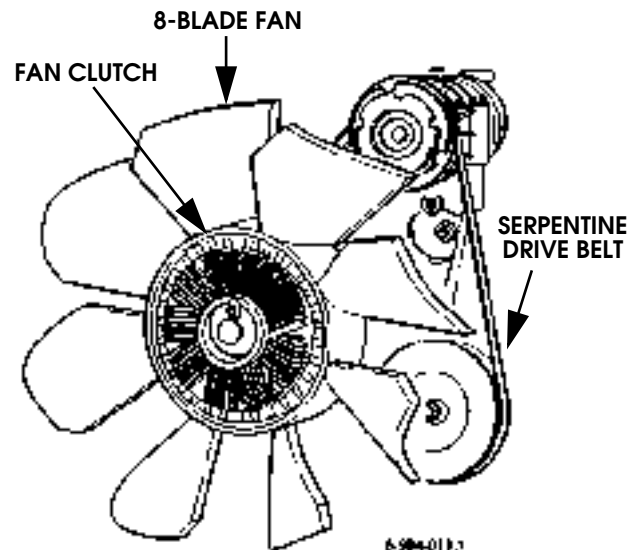

Figure 4-25: Fan and Clutch Mounting
6. Remove fan and fan clutch (Figure 4-25).